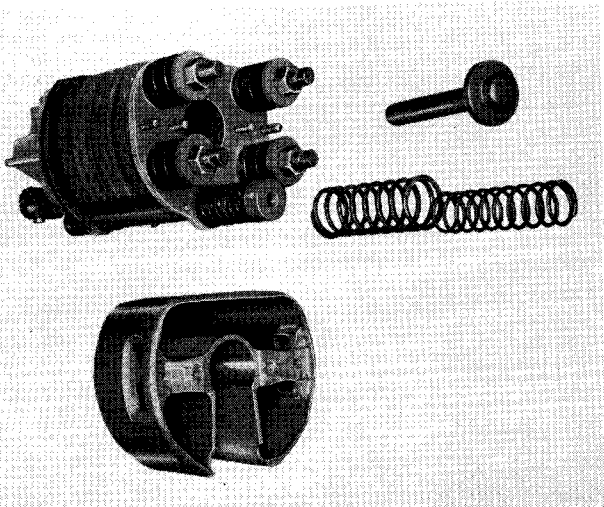

FIG. 18c. Removing Lower Contact
Ref. Fig. 18c. Removal of the lower contact (7) (with its driving springs (11)) may be done by removing lower metal shield (6), which is fastened to the lower casting by four nuts that may be reached through the shield.